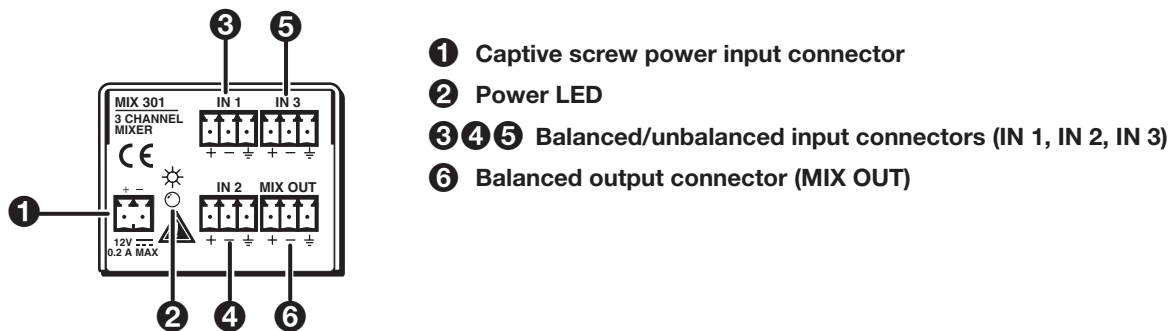

Figure 2. MIX 301 Rear Panel
- 1 **Captive screw power input connector** (see figure 2 on the previous page) — Connect the included 12 VDC external power supply into the 2-pole 3.5 mm captive screw connector. Be careful to observe the correct polarity.